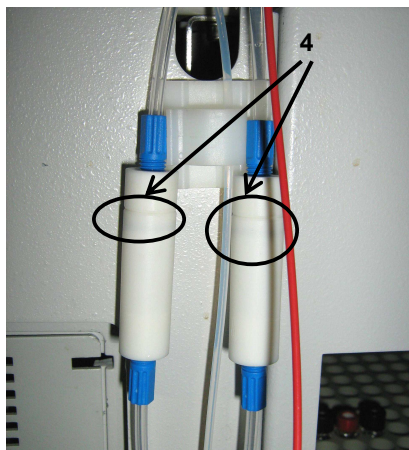

Figure 6: De-bubbler orientation on the tubes connecting to the pumps
5. Make sure that the de-bubbler is oriented in the proper direction and that the ridge (4) is closest to the top of the instrument (Figure 6)